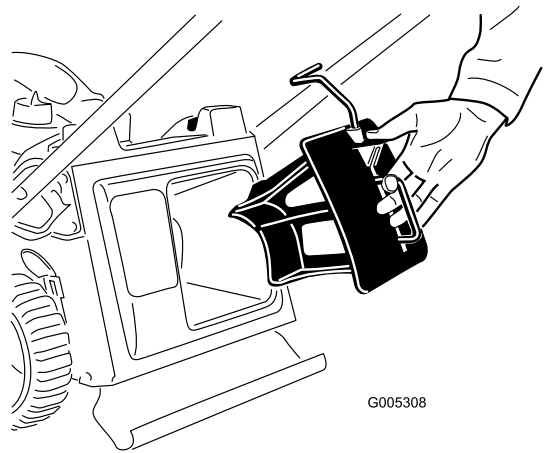

Figure 7
1. Insert the mulch plug into the mower, if it isn't already installed (Figure 7).